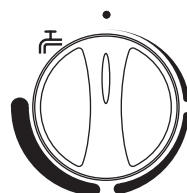

Fig. 8 Domestic Hot Water Temperature Control
3. **Domestic Hot Water:** The temperature of the domestic hot water can be adjusted by turning the control knob clockwise to increase up to a maximum of 65° C (Fig. 8).